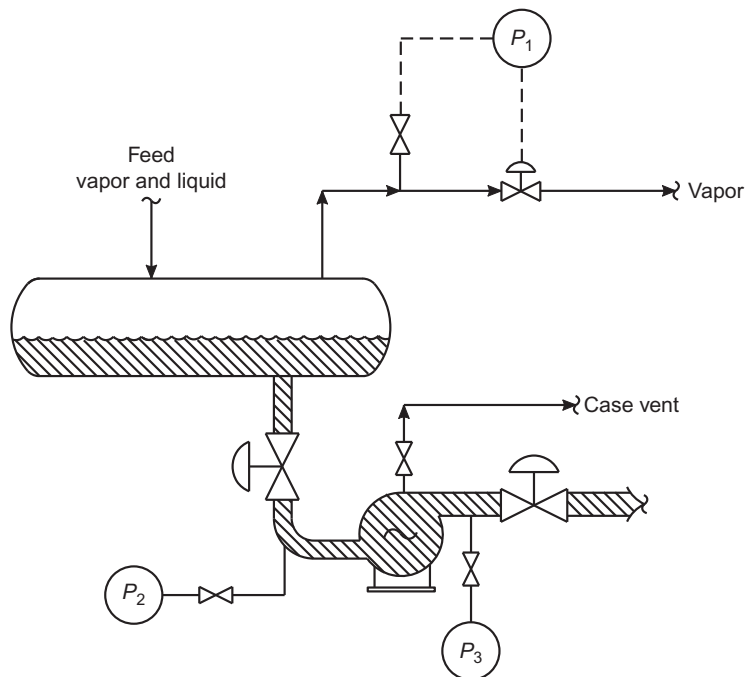

FIG. 30.3 A sudden increase in drum pressure temporarily increases available NPSH for start-up.
“There is a more fundamental reason for supplying available NPSH in excess of the manufacturer’s NPSH tabulated on the pump performance curve. Let’s take a look at Fig. 30.3. Initially, when an operator starts a centrifugal, motor driven pump, he ‘primes’ the pump by:
5. Then, open the discharge valve the rest of the way, as fast as possible, but as limited by not losing the pump *suction* pressure (P_2 —Fig. 30.3).”
“But I learned at University that it’s also bad for the pump if it cavitates. So it seems to me that it’s best to watch the discharge pressure. And, if the discharge at P_3 (Fig. 30.3) becomes erratically low, open up the discharge valve slower.”
“Look at Fig. 30.3. When a pump starts, stagnant liquid in the suction line has to be accelerated to maybe 3 ft per second. Here’s the point:
“First we’ll increase the drum set point pressure by 10 psi. Next, open the discharge valve (see Fig. 30.3) by $\frac{1}{4}$ of a turn. Then start the pump, and open the discharge valve in a few minutes all the way.